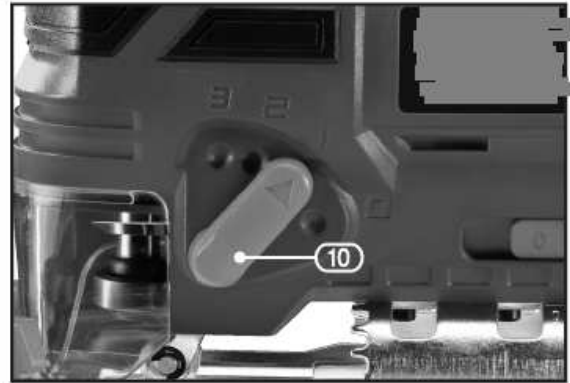

FIG.9
9.3 ORBITAL/PENDULUM ADJUSTMENT – FIG.9